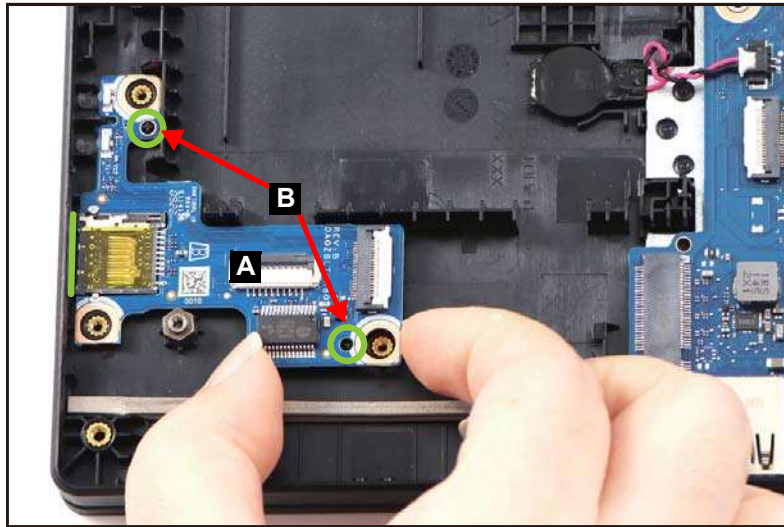

Figure 3-91. Replacing the Card Reader Board
1. Align and slide the card reader slot on the card reader board (A) into its slot on the top assembly. Then place the card reader board onto its compartment until it is fully seated and secured to the guide pins (B) (Figure 3-91).